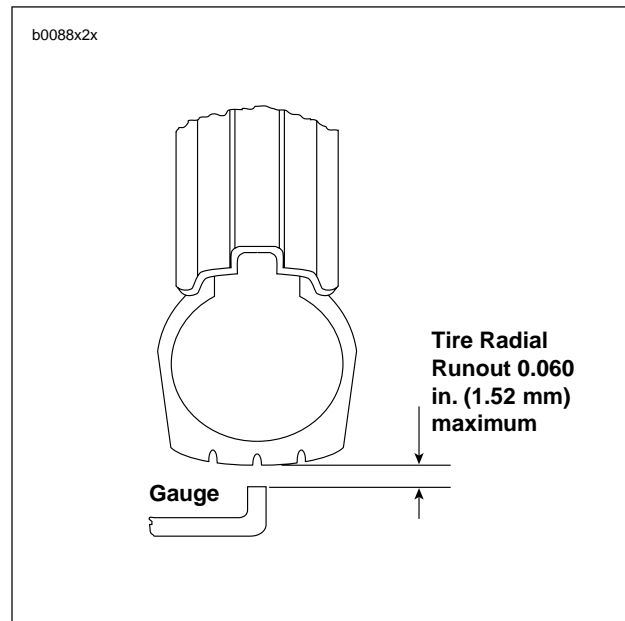

Figure 2-18. Checking Tire Radial Runout
1. See Figure 2-18. Turn wheel on axle and measure tread radial runout.